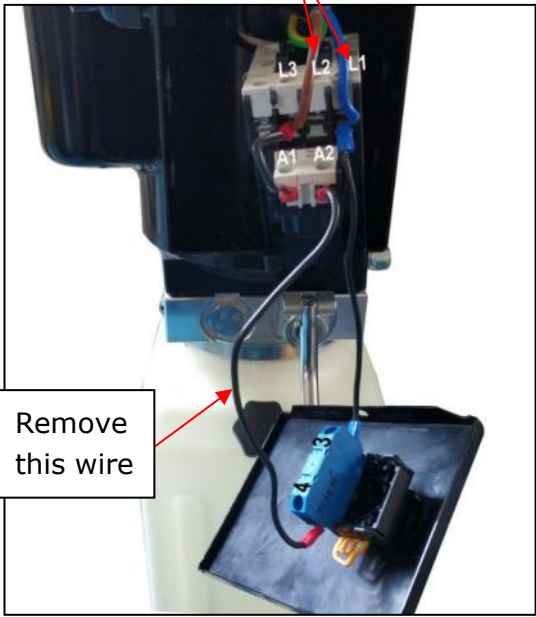

Fig. 39
2. Connecting limit switch wire: remove the short wire connecting terminal 4# of control button and A2 of AC contactor firstly (See Fig.38), then according to the wire number of the limit switch, connect them respectively to terminal 4# of control button and A2# of AC contactor. (See Fig. 39)